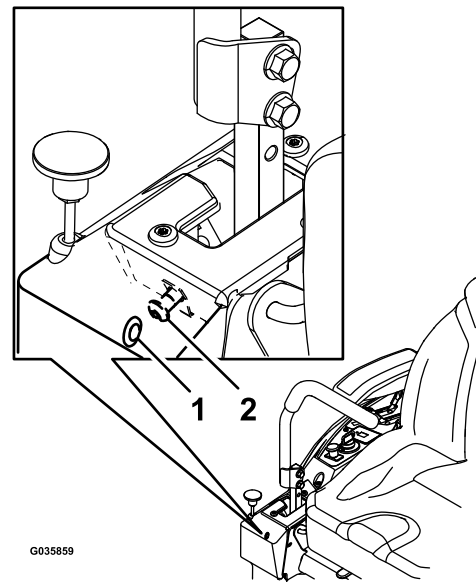

Figure 59
6. If the machine tracks to the right, insert a 3/16 inch hex wrench through the access hole in the right front cover panel and rotate the tracking screw clockwise or counterclockwise to adjust the travel of the lever (Figure 59).
7. If the machine tracks to the left, insert a 3/16 inch hex wrench through the access hole in the right front cover panel and rotate the tracking screw clockwise or counterclockwise to adjust the travel of the lever (Figure 59).